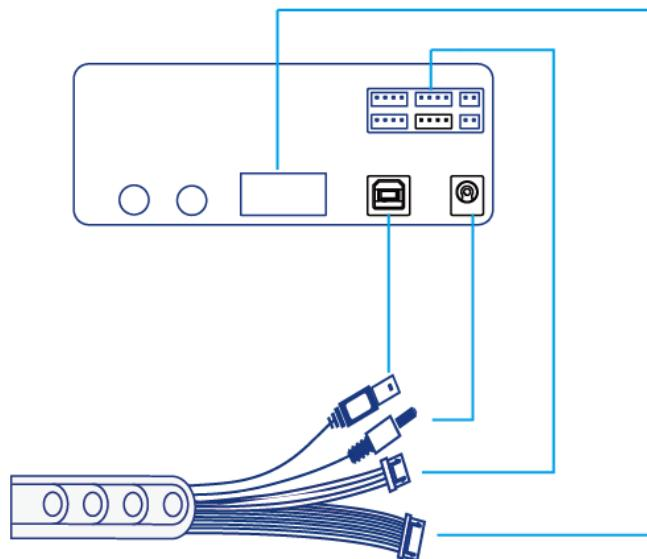

Figure 5.192 Connect to Dobot Magician
Step 5 Connect the interfaces on the end of the wire set to Dobot Magician, as shown in Figure 5.192.